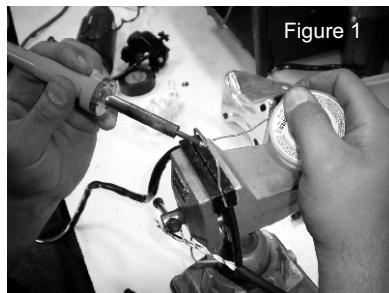

Figure 1
- Match up the wire colors on each side with the extension wires in the kit and solder them to their mates (figure 1). Be sure to match the twisted pair of wires (white-black/white-red) to the twisted pair in the extension harness.